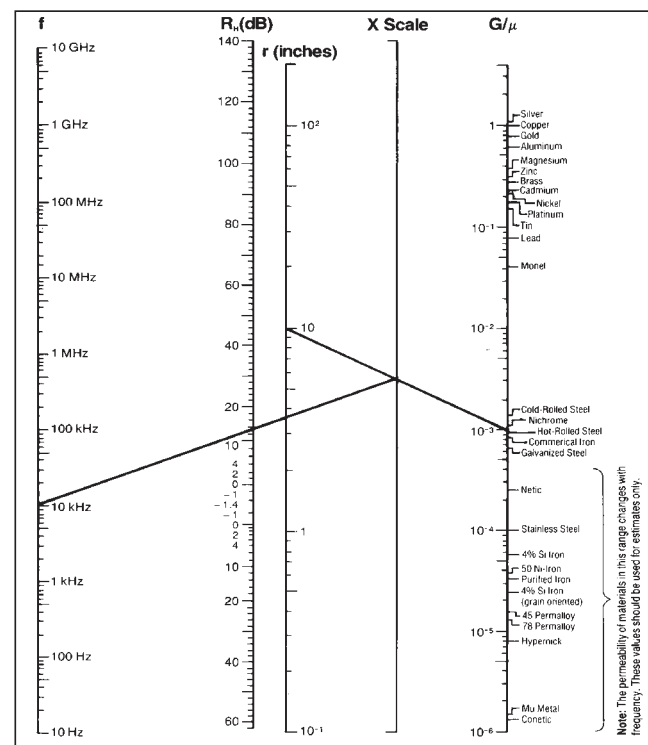

Figure 10-6 Magnetic Field Reflection Loss Nomograph, RH1
**Magnetic Field Reflection – Figure 10-6:** To determine magnetic field reflection loss RH: